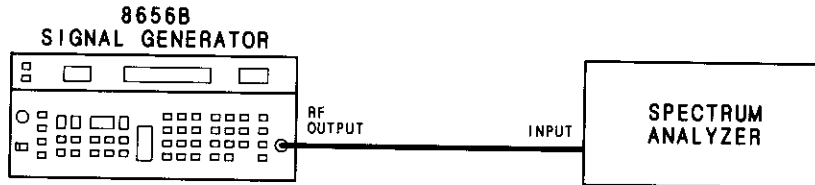

Figure 5-19. API 1, 2, 3 and 4 Adjustment Setup
3. Connect the RF OUTPUT of the Signal Generator to the spectrum analyzer SIGNAL INPUT 2 as show in Figure 5-19.